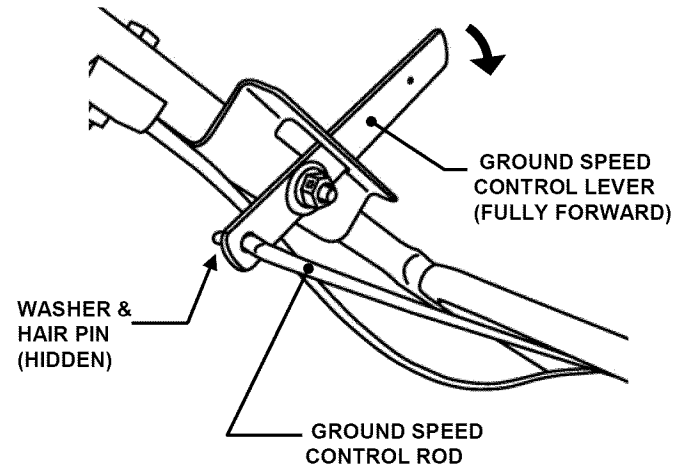

FIGURE 10
3. Slide Ground speed control lever fully forward. See Figure 10.
5. Thread rod in until upper end of rod aligns with hole in bottom of ground speed control lever. See Figure 10. Insert upper end of rod into hole, and secure with 5/16" flat washer and hair pin.